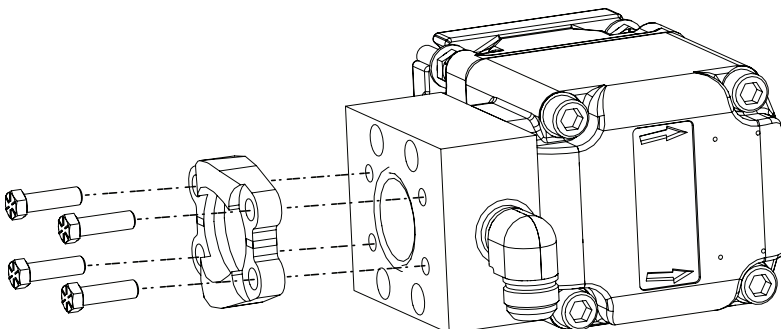

Figure 3
9. Remove and retain the bolts securing the suction side flange to spacer block (Figure 3).